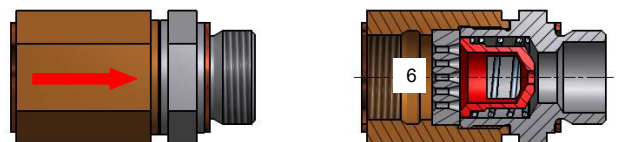

Fig. 2 / Pulsation damping valve with damper disk (PDV-DS)
The version PDV-DS (fig. 2) is on the input side additionally provided with a damper disc (6).
PDV-DS / Fig. 2 / Function is the same as PDV, in addition, however, the gas outlet pulsation (from compressor) is damped. The effect of the damper disc is based on reflection and dissipation. The damper disc acts within the pipeline as a reflection point. The propagation of the pressure pulsation in the downstream system is prevented by reflection of the pulsation energy, at the same time "standing waves" are destroyed in the pipeline. Due to the increased fluidic friction in the holes of the damper disc, it has also a dissipative effect.